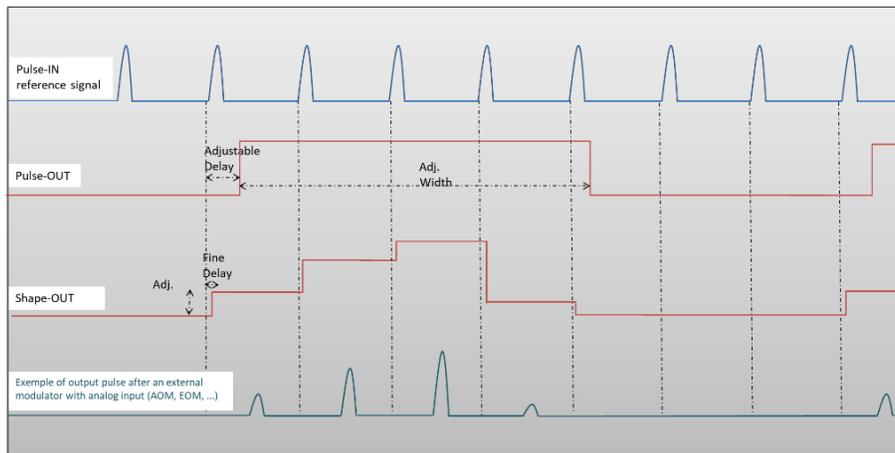

Figure 20 : Pulse picking a burst and generate adjusted intensity pulses described §6.9 p73
- **Auto Fine Delay** may be let in auto mode or manual if you need to adjust the fine delay from reference signal to each shape point (see Figure 20).